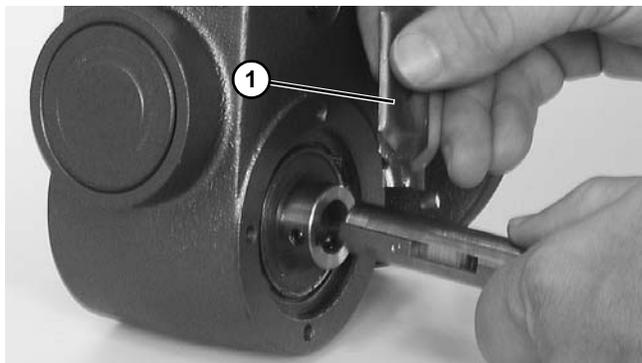

Figure 39
- Apply anti-seize (**Figure 39, item 1**) to shaft.